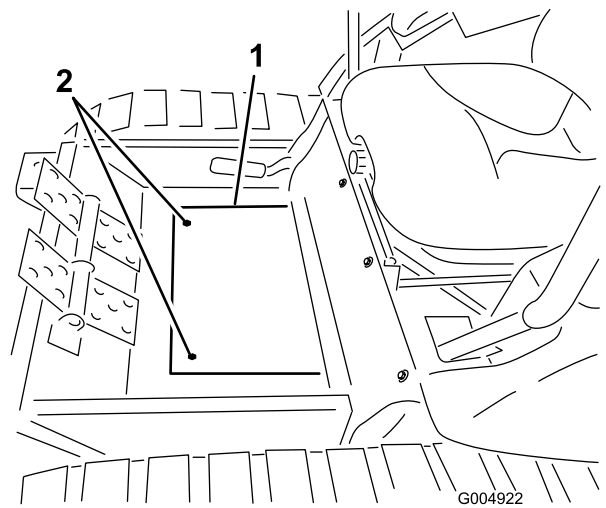

Figure 107
17. Remove the two screws securing the winter frame floor plate cover to the floor and remove the plate (Figure 107).